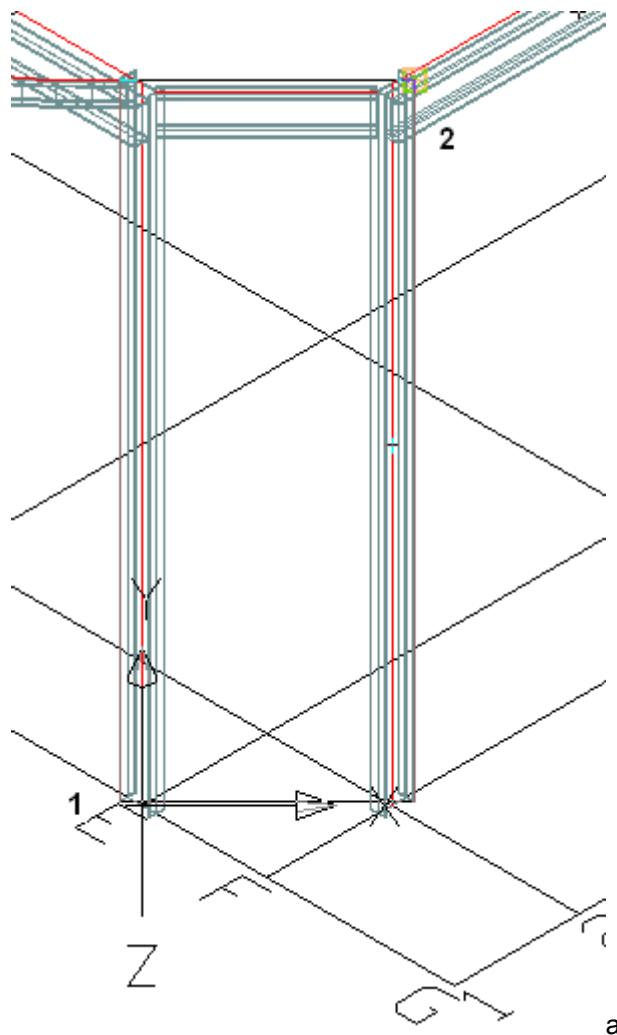

Figure 91: Selecting the two points defining the view
1. Place the UCS in a suitable position as in the Figure 91 using UCS 3 points  tool on the UCS tool palette. The XY plane is in the elevation plane.